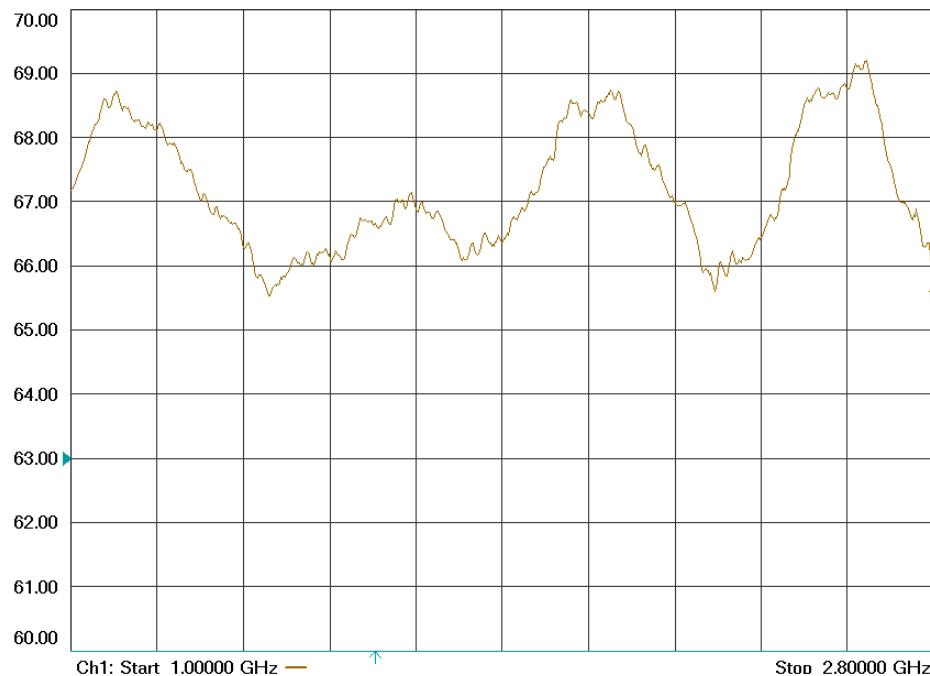
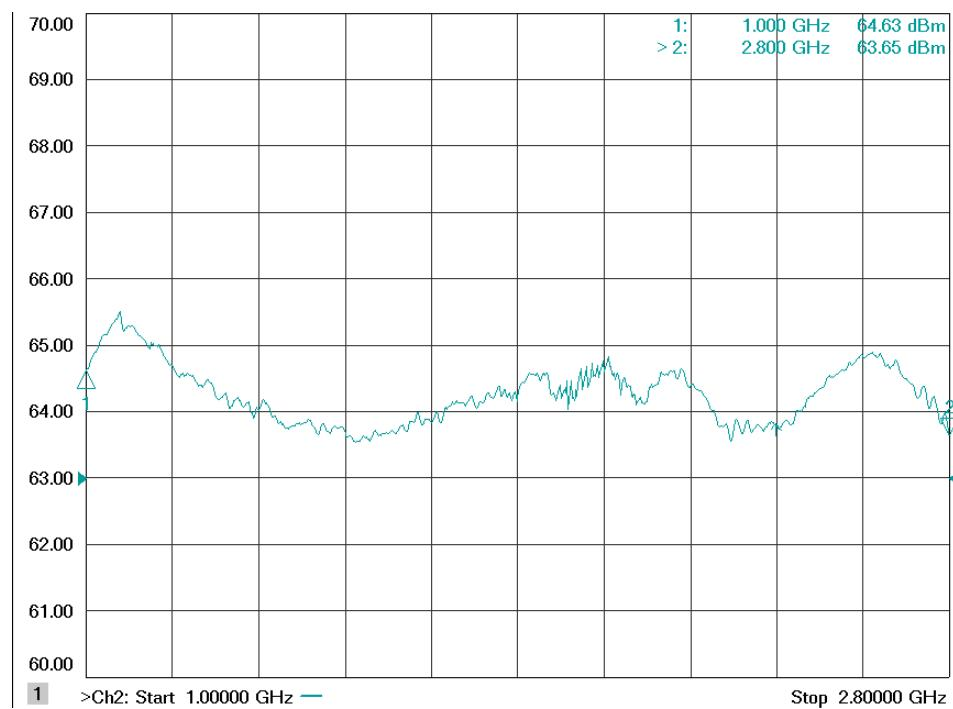

Figure 4-1. Typical Response at -20 dBm Input
Figure 4-2. Typical Response at 0 dBm Input
1. The Model 2000S1G2z8's typical gain response at -20 dBm input and 0 dBm input is shown in Figures 4-1 and Figure 4-2. The actual gain may vary considerably from that shown in these figures but should be ≥ 65 dBm at -20 dBm input and ≥ 63 dBm at 0dBm input.